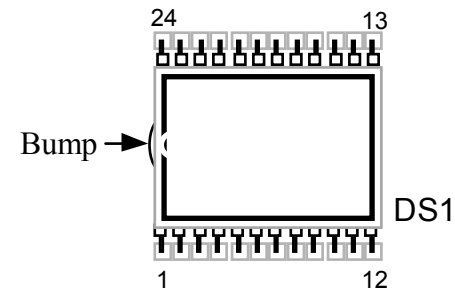

Figure 5-8
- Remove the LCD from its packing materials, being careful not to bend the pins. As shown in Figure 5-8, the pin 1 end of the LCD glass has a very slight bump, along with a break in the black border. This end will be oriented towards the pin 1 end of DS1's component outline.